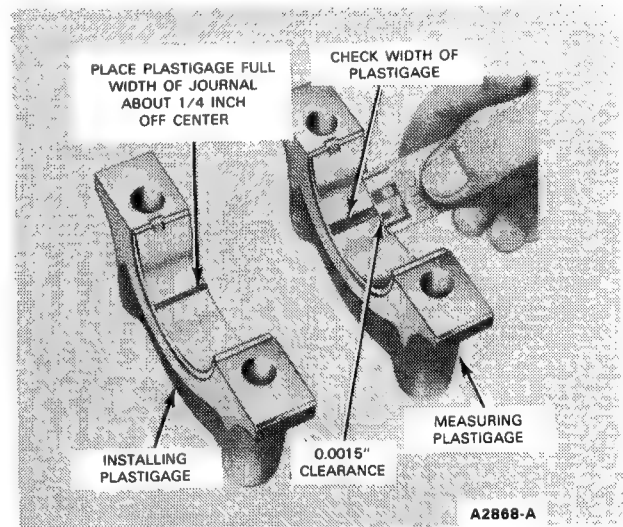

FIG. 17 Installing and Measuring Plastigage
3. Place a piece of Plastigage on bearing surface across full width of bearing cap and about 1/4 inch off center (Figure 17).